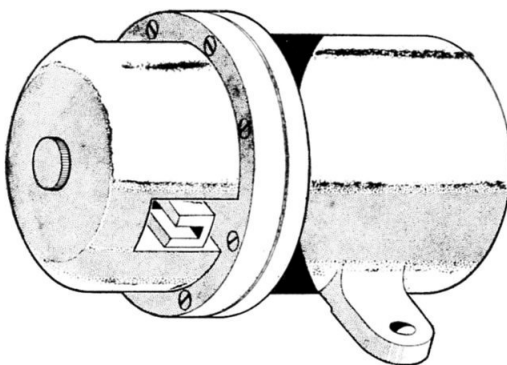
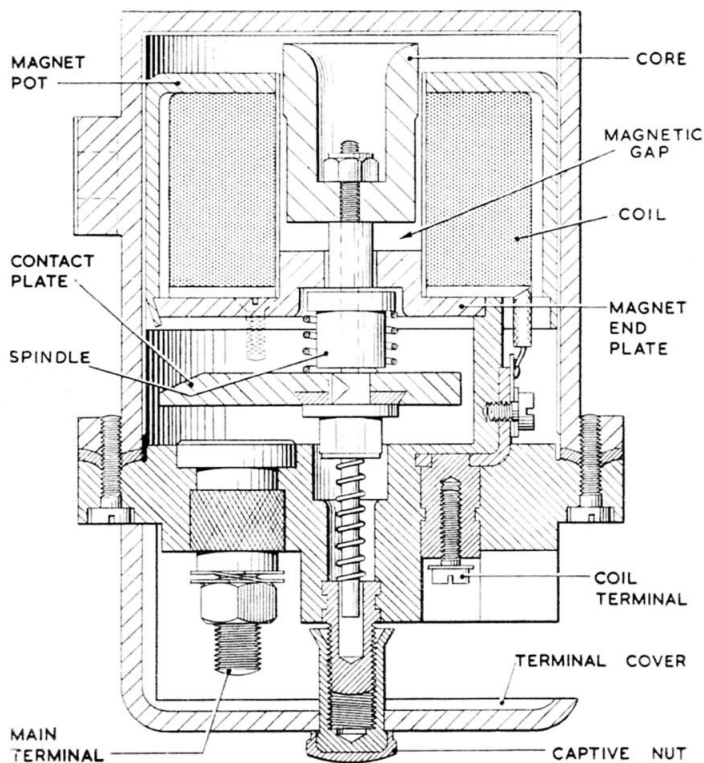

Fig. 1. Magnetic relay switch, Type T2
Fig. 2. Sectional view of switch
2. The relay switch (fig. 1) is a single-pole, double break switch, operated by an electro-magnet. The closing of a control switch energizes the coil and attracts the core until it abuts the magnet end plate (fig. 2). The core is carried on a central spindle which moves downwards against spring tension. Also mounted on the spindle is a copper contact plate; when the relay is energized, this plate bridges the main terminals and completes the circuit to the load.